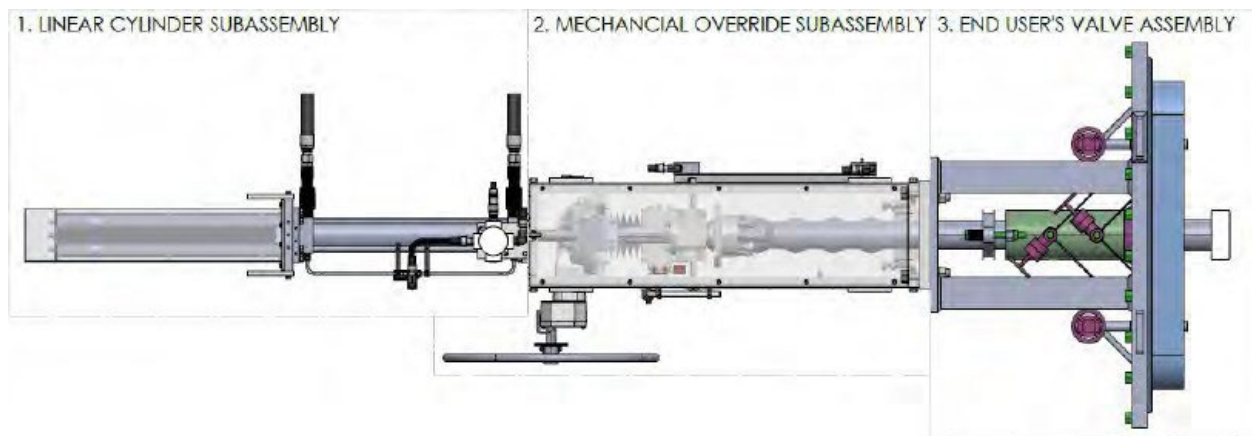

Figure 1: Linear Mechanical Gear Drive
REXA linear actuators can be designed with a mechanical override to allow for manual operation of the actuator in the event of a power outage or failure. Each linear actuator equipped with a linear mechanical gear drive consists of two main sub-assemblies: (1) the linear hydraulic cylinder with either on-board power module(s) or remote power module(s) and (2) the linear mechanical gear drive sub-assembly. Figure 1 illustrates an actuator system with mechanical override design mounted onto (3) and example end user valve assembly: